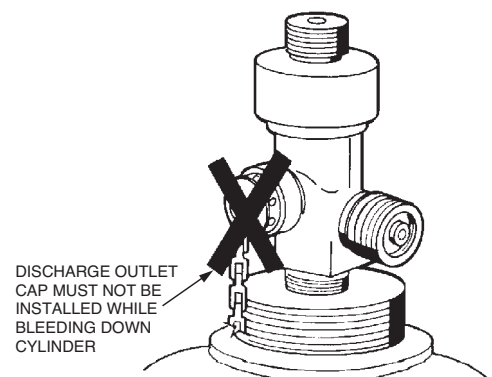

FIGURE 1
- a. Make certain discharge cap IS NOT on valve outlet. See Figure 1.